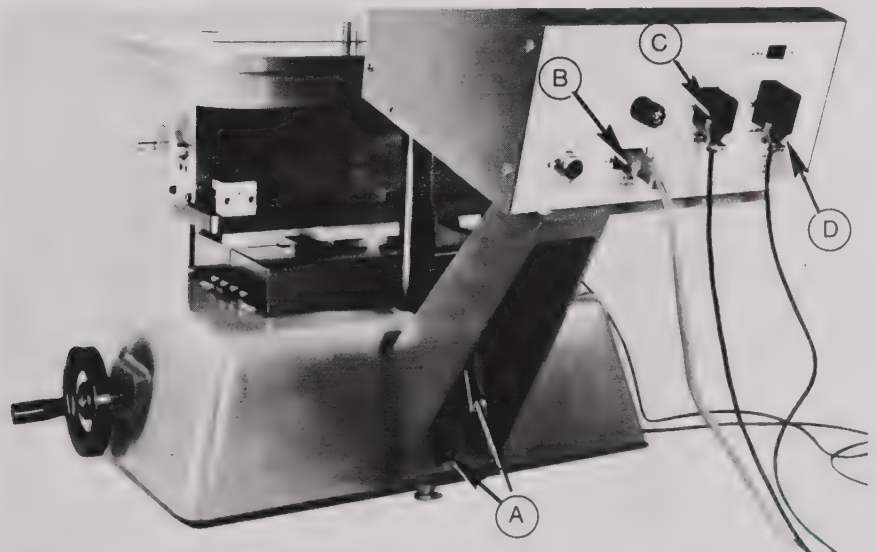

Figure 3. Rear View, Showing Amplifier and Bracket Setup.
Refer to Figure 3. Connect Amplifier Mounting Bracket to rear of Comparator, using two 1/4"-28 bolts (A). Mount amplifier, making sure four feet fit securely into corresponding holes in the bracket. Using power cable furnished (B), connect amplifier to the appropriate 117V or 220V ac power source (see power specifications on back panel of the amplifier). Plug in the pantograph null transducer (6-pin connector) (C) and gage head cord (8-pin connector) (D) at the back of the amplifier.